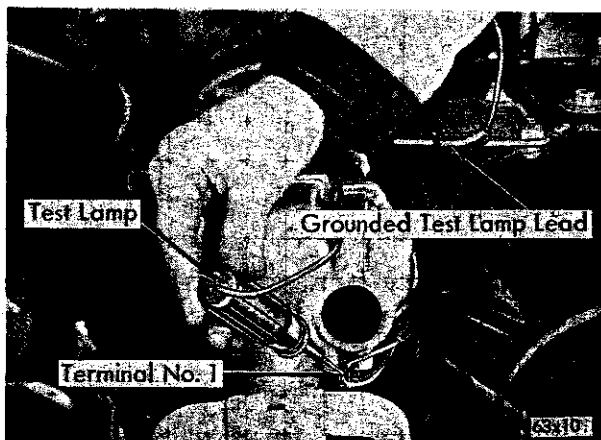

Fig. 27—Testing for Current at No. 1 Terminal
- (1) Turn the ignition switch "on". **Do not start the engine.**
- (2) Using a test lamp, ground one test lamp lead and touch the other end to terminal No. 1, (Fig. 27). The test lamp should light. If the lamp fails to light,